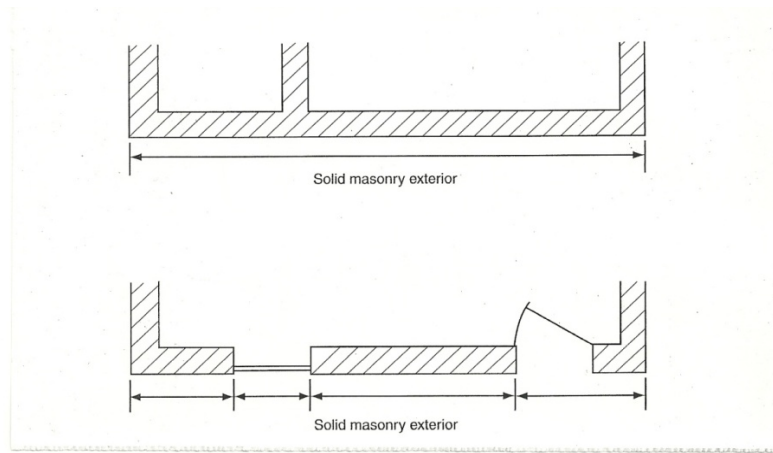

Figure V.3 Dimensioning Masonry Walls
**V.4.1. Dimensioning floor plans**–The dimensions on the floor plan must be correct because other drawings will use floor plan as their basis. Dimensions of walls, windows, and doors are included. When dimensioning walls, different types of walls are dimensioned differently. Masonry walls dimensioned to their exterior surface as in Figure V.3